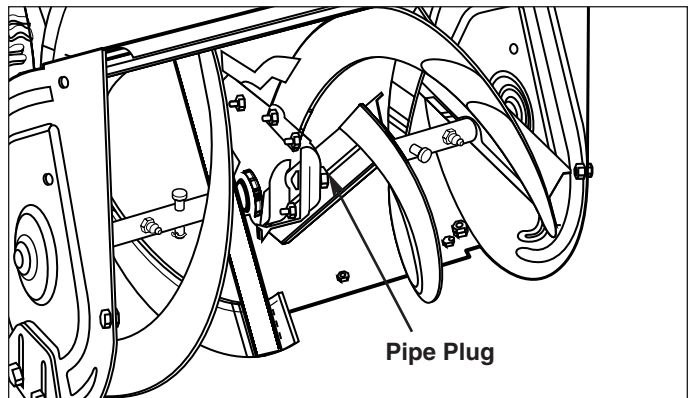

Figure 14. Checking Auger Gear Case Lubrication
2. Remove the pipe plug (Figure 14).